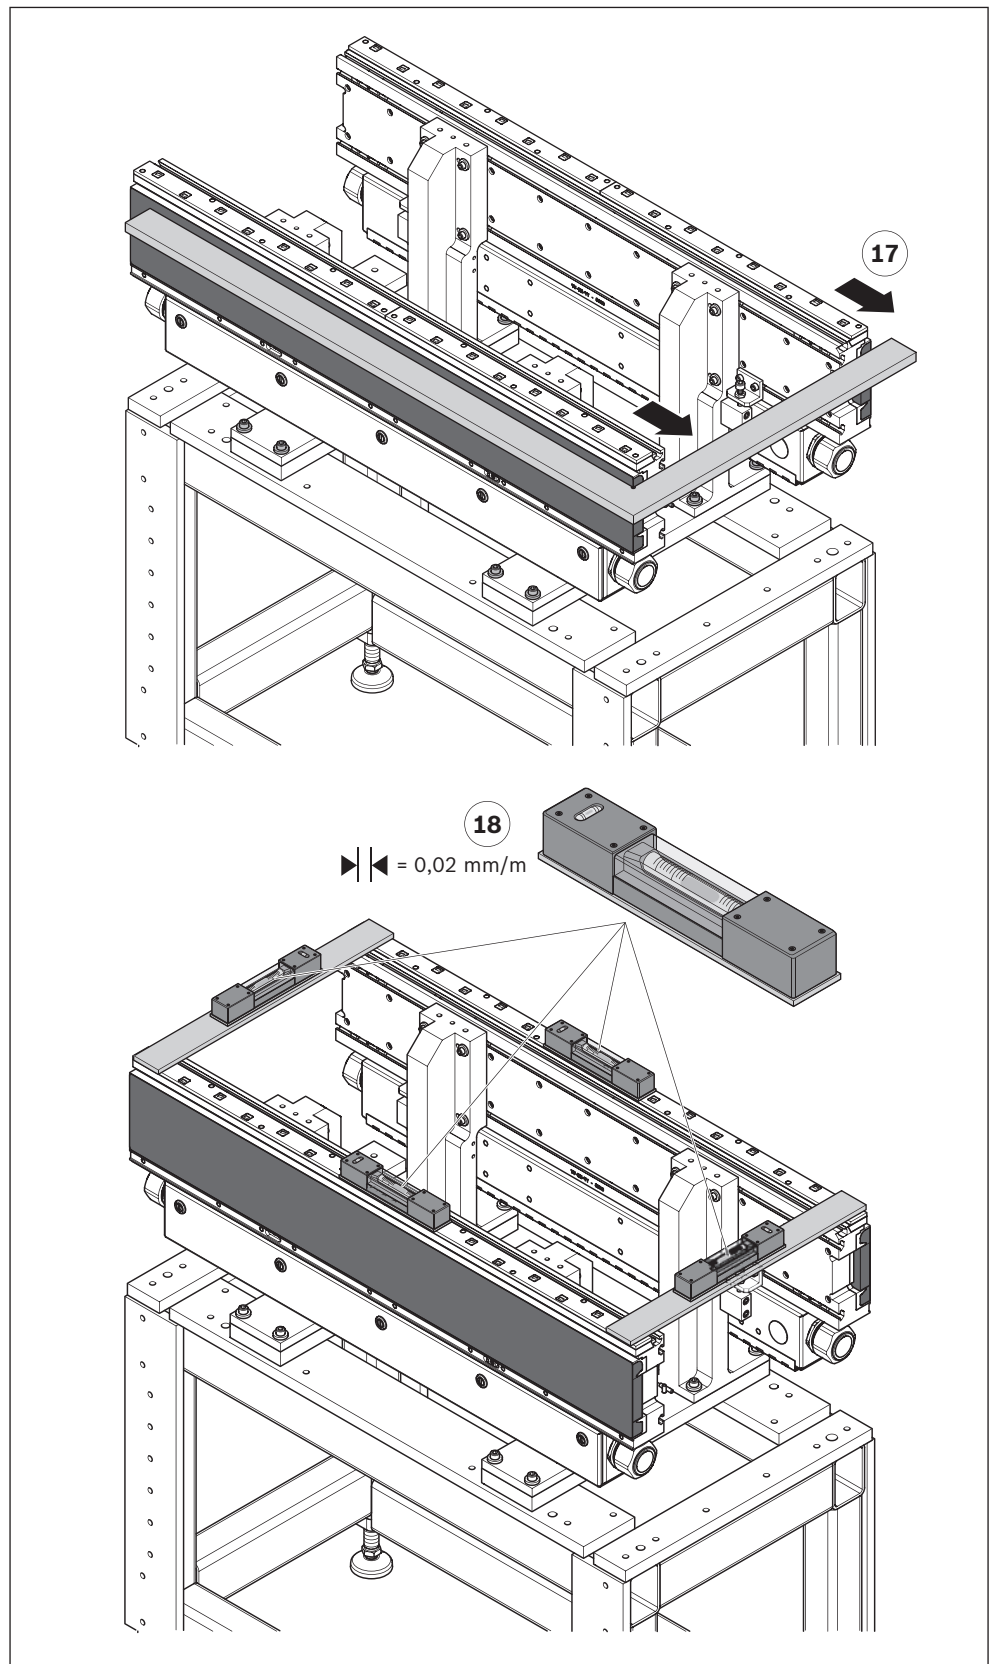

Fig. 38: Checking section module alignment
1. Check the alignment of the system section with section module (see Fig. 38 on page 61).